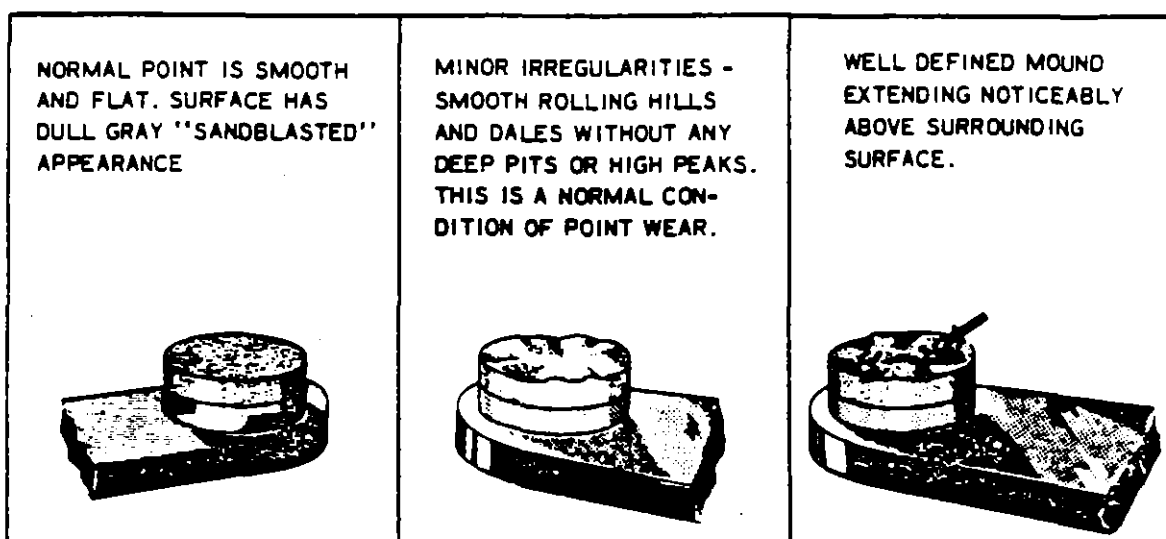

Figure 8-9. Magneto Breaker Points
- e. Examine the breaker points for excessive wear or burning. Figure 8-9 shows how the average breaker point will look when surfaces are separated for inspection. Desired contact surfaces have a dull gray, sand-blasted (almost rough) or frosted appearance over the area where electrical contact is made. This means that points are worn in and mated to each other, thereby providing the best possible electrical contact and highest efficiency of performance.
- f. Minor irregularities or roughness of point surfaces are not harmful (Refer to Figure 8-9 center). Neither are small pits or mounds, if not too pronounced. If there is a possibility of pit becoming deep enough to penetrate pad, Figure 8-9 right, reject breaker assembly.